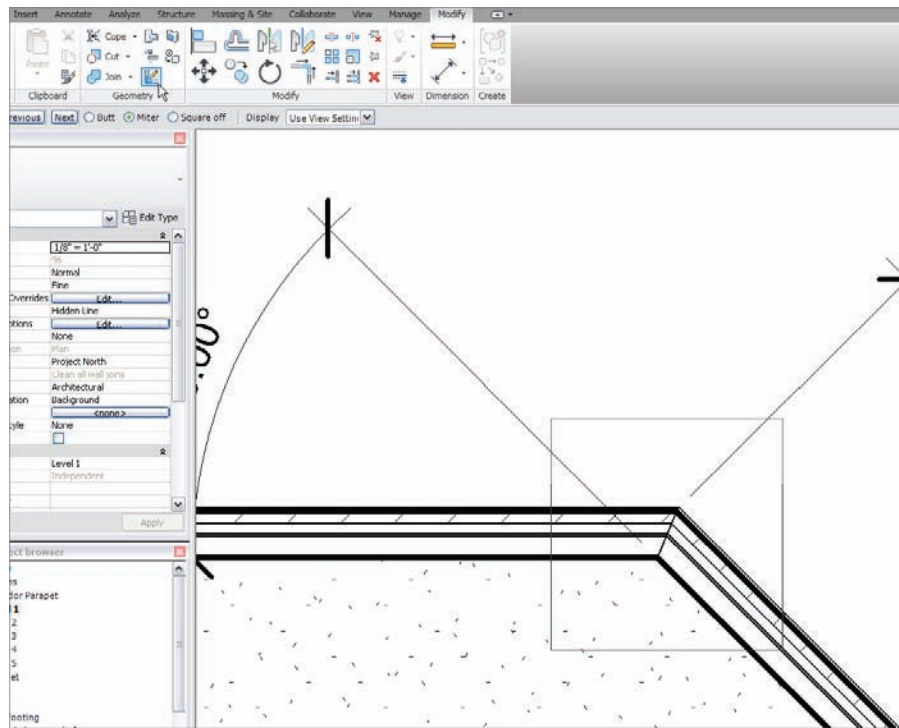

FIGURE 7.31 Modifying the walls' corners
2. Zoom in to the wall intersection, as shown in Figure 7.31.
3. On the Modify tab, click the Wall Joins button, as shown in Figure 7.31.